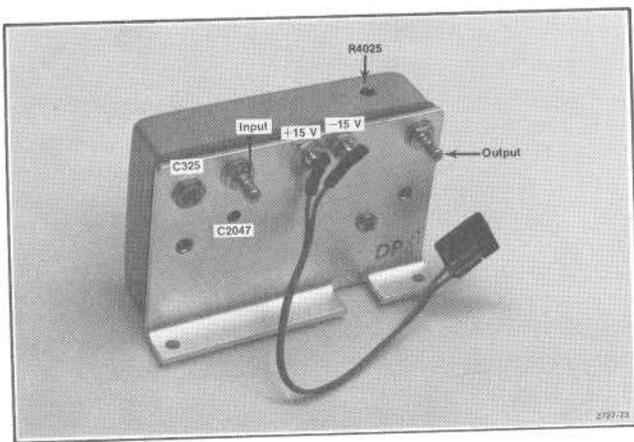

Fig. 4-10. Location of the 110 MHz IF return loss adjustments and IF Gain adjustment.
5. Adjust C2047 and C325 (Fig. 4-10) simultaneously for minimum signal amplitude on the spectrum analyzer display. Minimum amplitude must be at least 35 dB down from the full screen reference of -20 dBm.